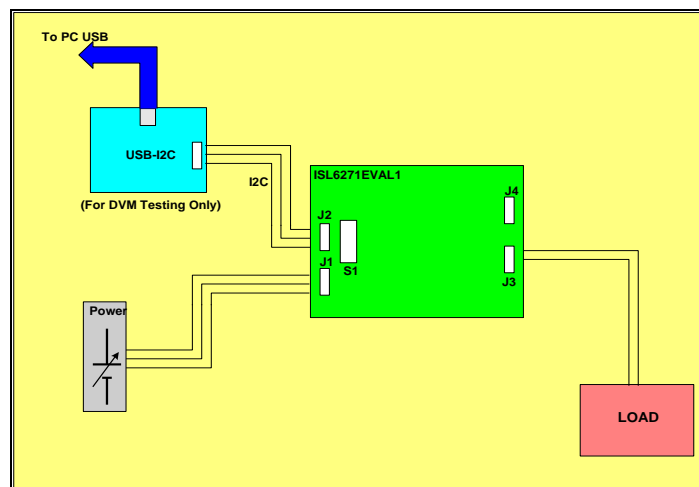
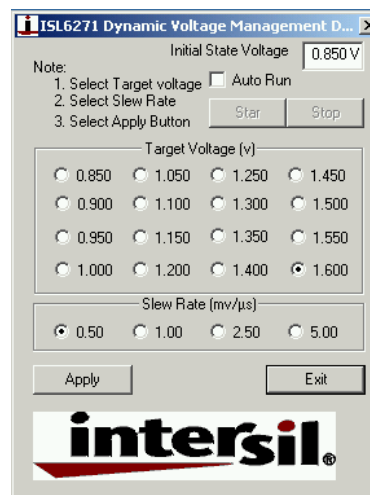
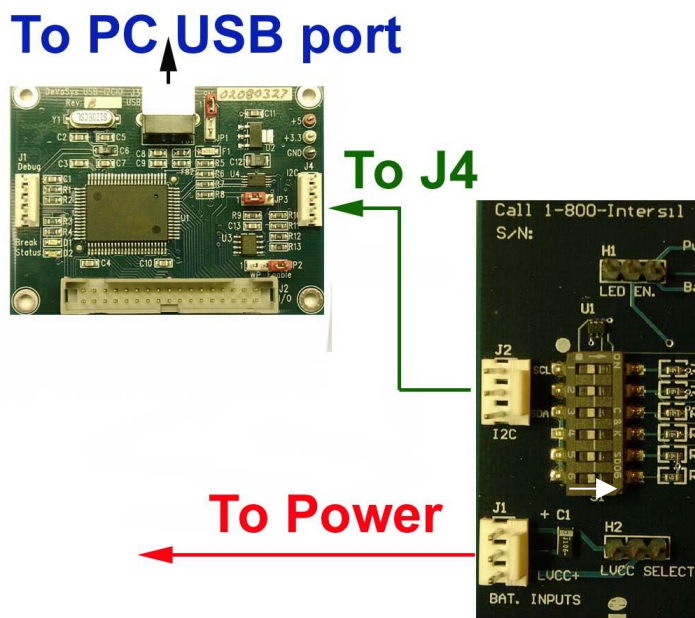

FIGURE 2. CONNECT J1 TO THE DUAL POWER SUPPLY
FIGURE 11. ISL6271A TESTING APPLICATION WINDOW
FIGURE 12. CONNECT THE INTERCONNECTING CABLE TO J2 ON THE EVALUATION BOARD
Connect J1 on the eval board to the dual power supply, with the (LVCC+) pin to 2.5V (supply to the 2 LDO's), the (+) pin to 3.7V (supply to the switching regulator), and the (-) pin to the supply common (gnd), **Figure 2**.
Once the SW is loaded and the DVM-choice screen is displayed (**Figure 11**), the two boards should be connected together (**Figure 12**). Before connecting the cable between the eval board and the USB-I²C module (**Figure 2**), apply input power (3.7V) to the eval board and then connect the interconnecting cable to J2 on the eval board. *Switch S1 position 6 should be switched to the 'right' for I²C testing.*
6. Click the "ISL6271A Demo" icon on your desk top to run the software. If you receive "Error in setting the initial stage" message, check your cable connections. Figure 11 window will pop up on your desktop. You will be able to adjust the ISL6271A output voltage and slew rate through the software.